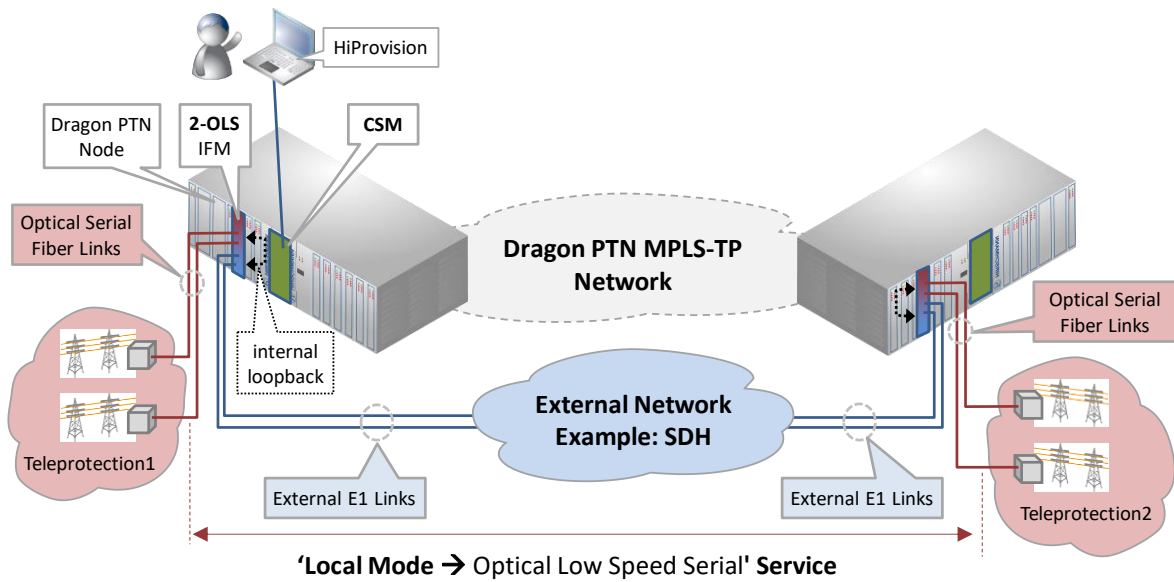

Figure 1 Local Mode: Optical Low Speed Serial - SDH Example
- ▶ Local Mode (Figure 1): The IFM converts serial data into E1 and vice versa. This mode does not use any backplane access (or Dragon PTN network) in a point-to-point connection. It converts the incoming serial signal on port1 into E1 on port3 and vice versa. The same counts for port2 and port4. The E1 links provide synchronous TDM links between two end points that can be used to transport over an external network e.g. SDH. The optical ports are the access ports whereas the E1 ports are the SDH interconnection ports. At the destination side, the 2-OLS receives the E1 traffic and converts it back to an optical low speed serial signal towards the end application. Service in HiProvision = 'Local Mode - Optical Low Speed Serial';